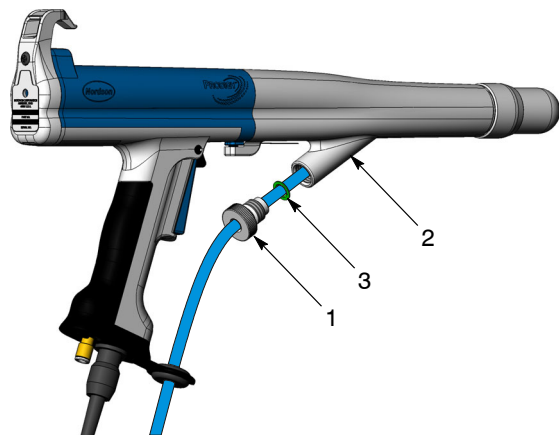

Figure 1 Removing Old Powder Tubing
1. See Figure 1. Loosen the lock knob (1) on the powder hose.